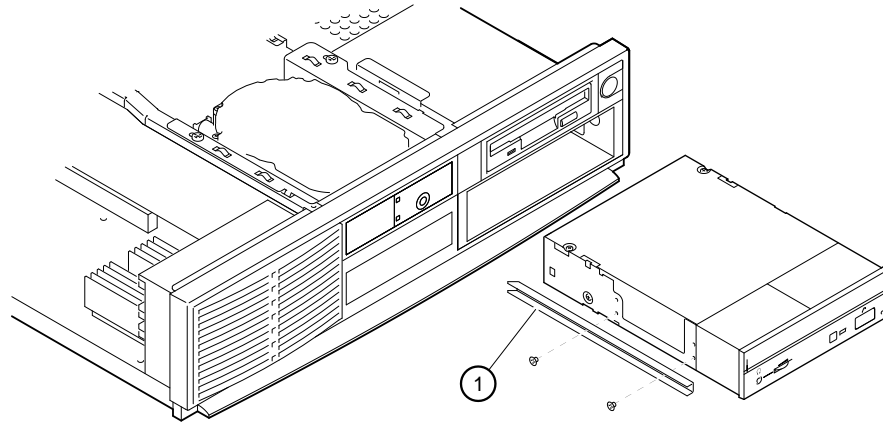

Figure 4-18 Drive Installation
4. Mount the holder ① to the side of the drive with two screws, as Figure 4-18 shows.